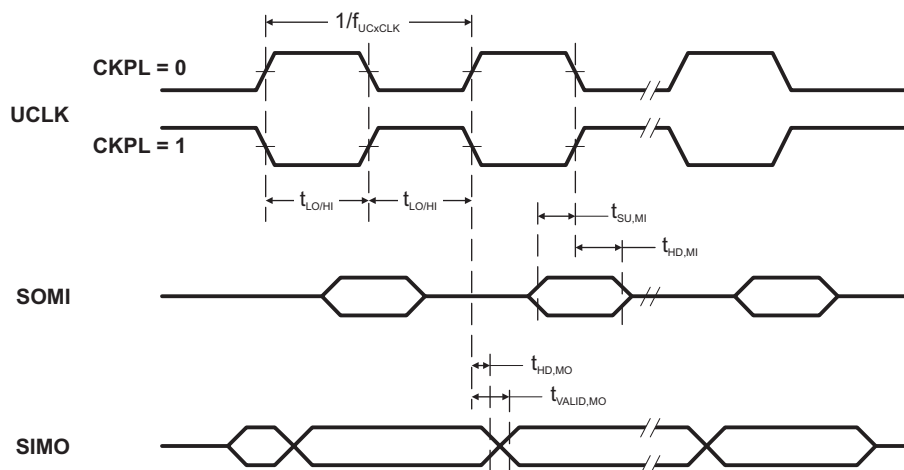
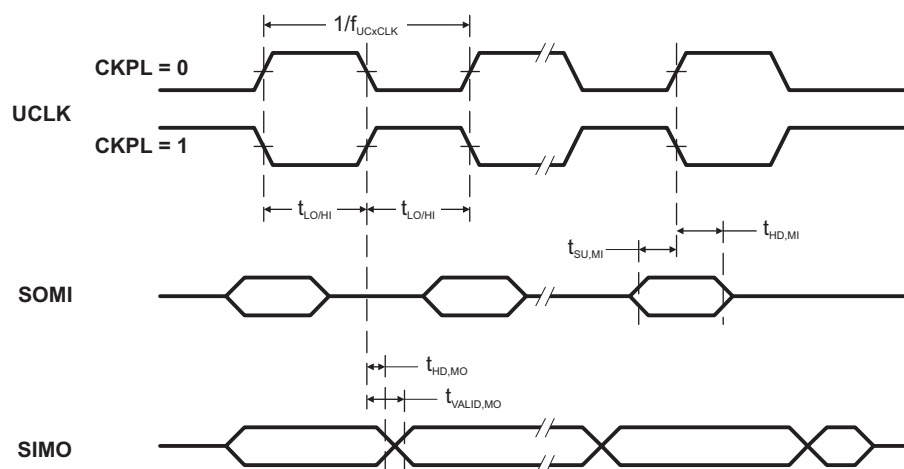

Figure 12. SPI Master Mode, CKPH = 0
Figure 13. SPI Master Mode, CKPH = 1
(see Note ⁽¹⁾, Figure 12 and Figure 13)
- (2) Specifies the time to drive the next valid data to the SIMO output after the output changing UCLK clock edge. See the timing diagrams in Figure 12 and Figure 13.
- (3) Specifies how long data on the SIMO output is valid after the output changing UCLK clock edge. Negative values indicate that the data on the SIMO output can become invalid before the output changing clock edge observed on UCLK. See the timing diagrams in Figure 12 and Figure 13.
(2) Specifies the time to drive the next valid data to the SOMI output after the output changing UCLK clock edge. See the timing diagrams in Figure 12 and Figure 13.
(3) Specifies how long data on the SOMI output is valid after the output changing UCLK clock edge. See the timing diagrams in Figure 12 and Figure 13.